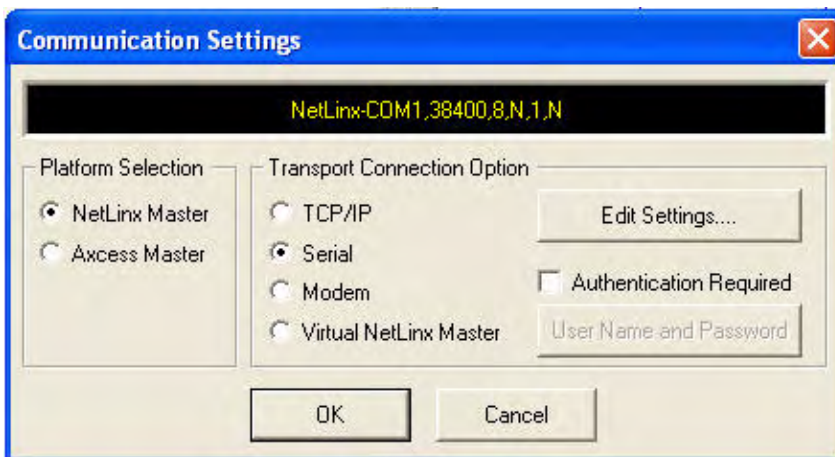

FIG. 41 Communications Settings dialog box
3. Click the **Communications Settings** button to open the *Communications Settings* dialog (FIG. 41).